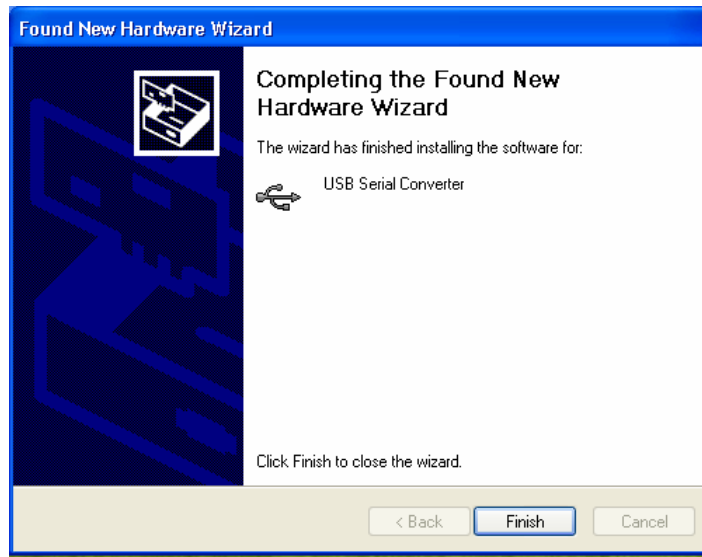

Figure 22: Finish Installing Driver Dialog Box
9.	After the driver installation is successful, the “finished installing” dialog box will appear, as shown in Figure 22.